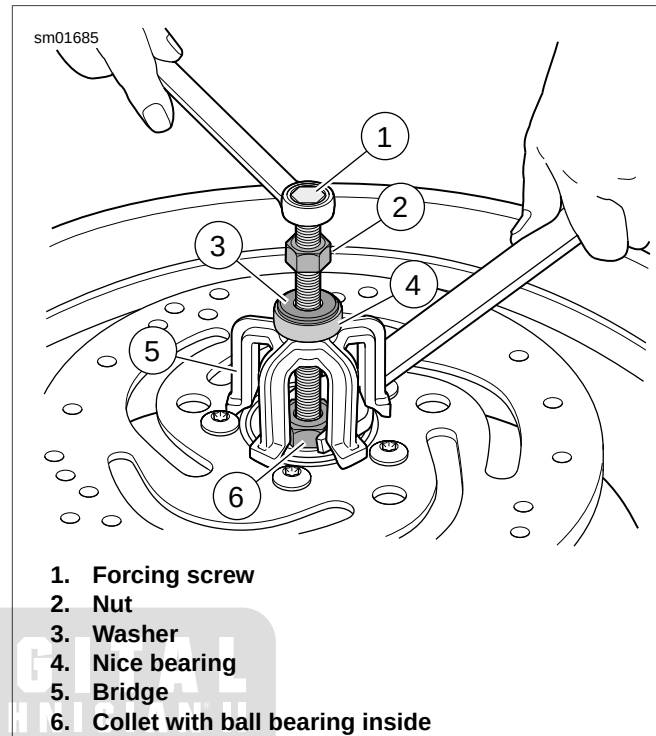
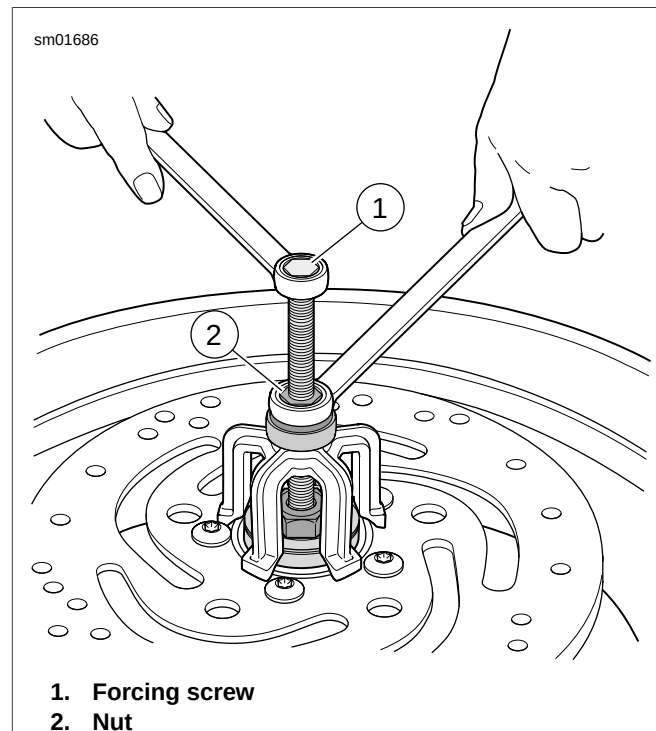

Figure 2-16. Wheel Bearing Removal Tool
Figure 2-17. Removing Bearing
2. See Figure 2-16. Obtain WHEEL BEARING INSTALLER/REMOVER (Part No. HD-44060-B) and assemble.
- a. Sparingly apply graphite lubricant to threads of forcing screw (1) for prolonged service life and smooth operation.
- b. Install nut (2), washer (3) and Nice bearing (4) on screw. Insert assembly through hole in bridge (5).
- c. Drop ball bearing inside collet (6). Fasten collet and ball bearing to forcing screw.
4. See Figure 2-17. When expanded collet has gripped bearing edges, hold end of forcing screw (1) and turn the nut (2) to remove bearing from wheel.